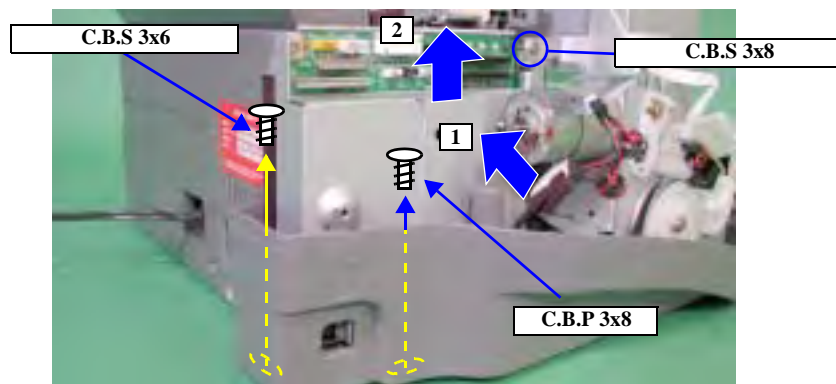

Figure 4-32. Main Board Removal 2
5. Follow the order shown in Figure 4-32 to remove the C496 Main Board from the Printer Mechanism.